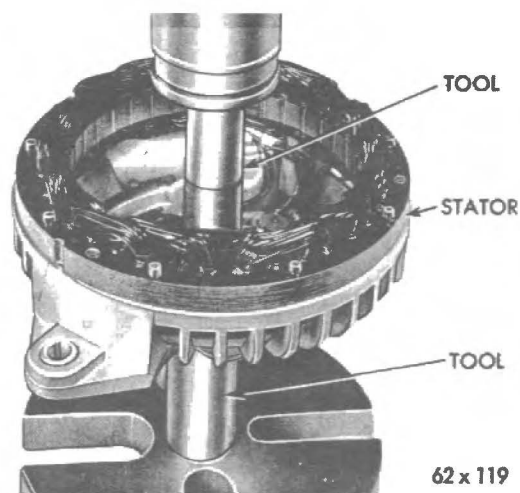

Fig. 34 - Removing rectifier end shield bearing. (Tools CA-3770, CA-3770/1).
(10) The needle roller bearing in the rectifier end shield is a press fit. If it is necessary to remove the rectifier end shield frame needle bearing, protect the end shield by supporting the shield with Tool CA-3770/1 when pressing out the bearing with Tool CA-3770 (Fig. 34).